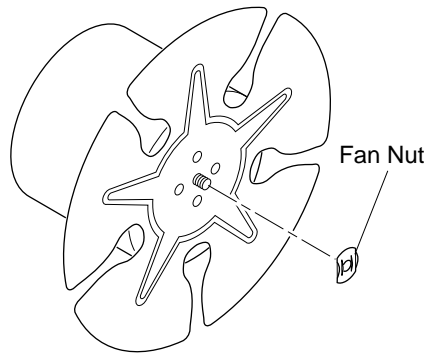

Figure 12 - Removing Fan Nut from Motor Shaft
3. Use pliers to remove the fan nut from front of motor shaft (see Figure 12).